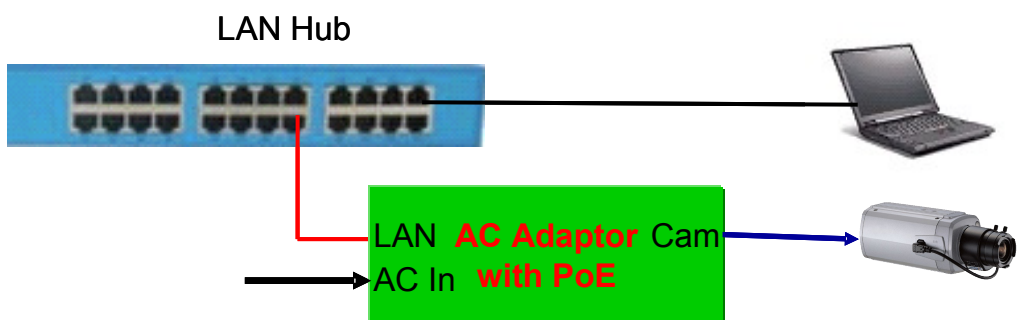

Figure 2-5. Connecting Network camera and PC using PoE Adaptor
- 2) If you have power adaptor with PoE, connect the network camera and PC as illustrated in Figure 2.5. Both power and network connection is made with a single LAN cable.